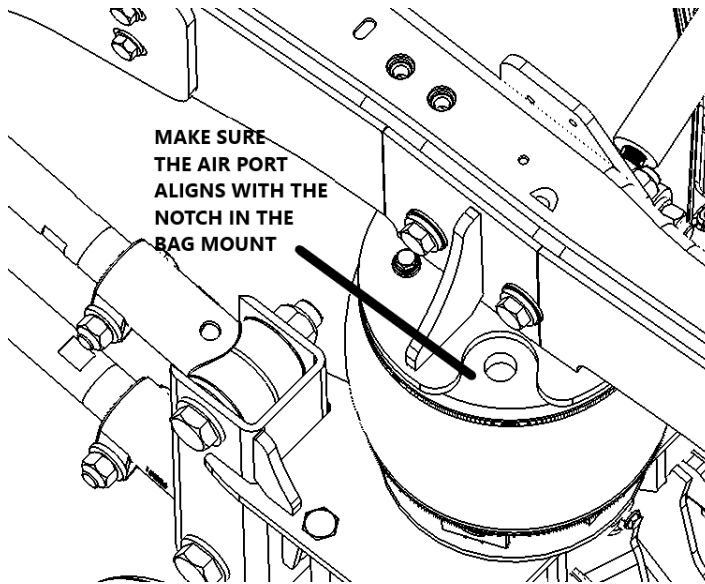

Figure 17
- 7:** Mount the air bags to the upper bag mounts with  $3/8"$  x  $1\ 1/4"$  – 16 bolts, lock washers and flat washers. Be sure to align the air port with the notch in the bag mount. Install the  $3/4"$  x  $3/4"$  90° air fitting into the air port on the air bag. See figure 17.